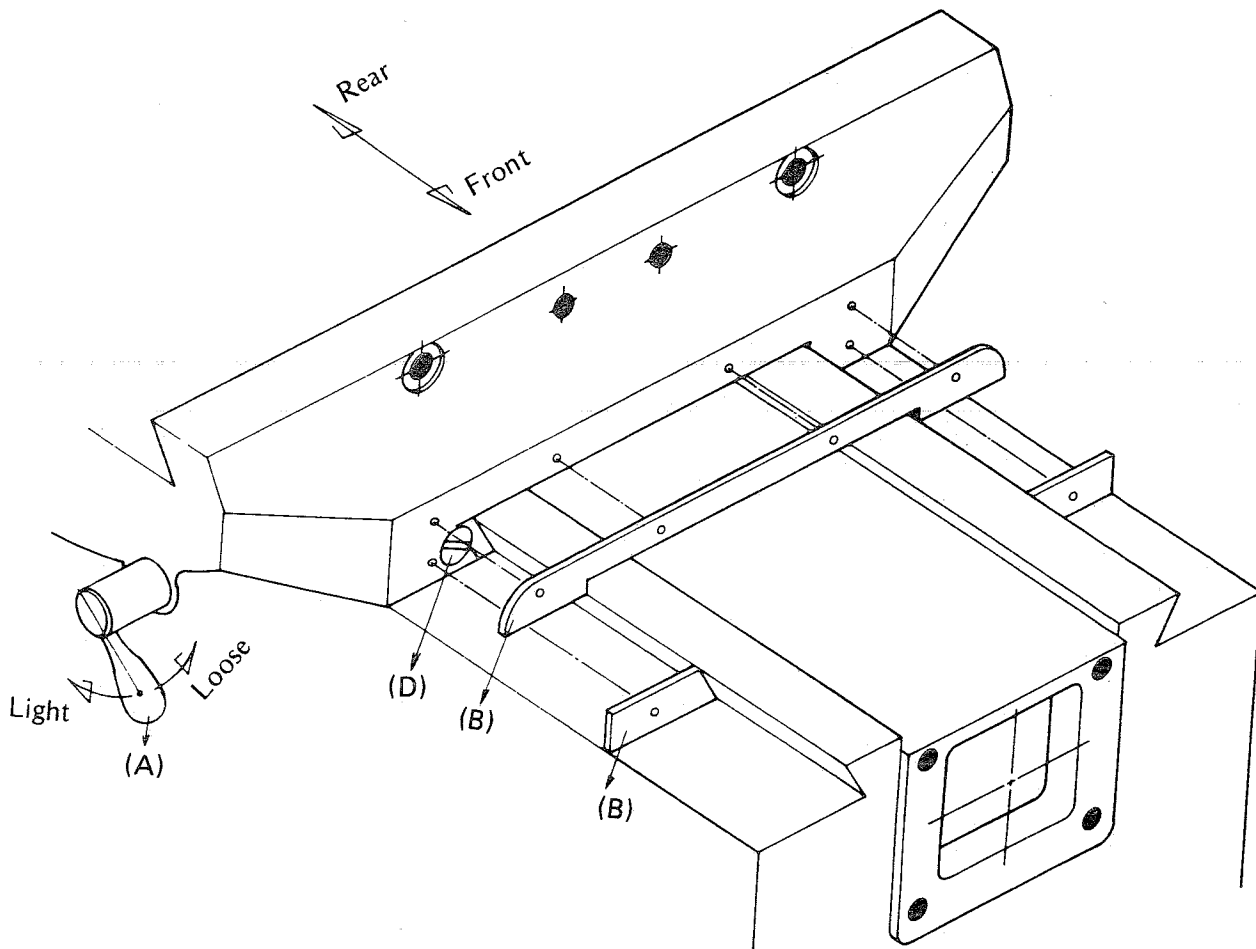

Figure 33
B. Adjustment of Saddle Gib (Vide Figure 33):